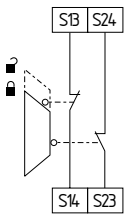

Fig. 7
**Dual-channel guard door monitoring circuit with interlocking device to EN 1088 (Fig. 7)**